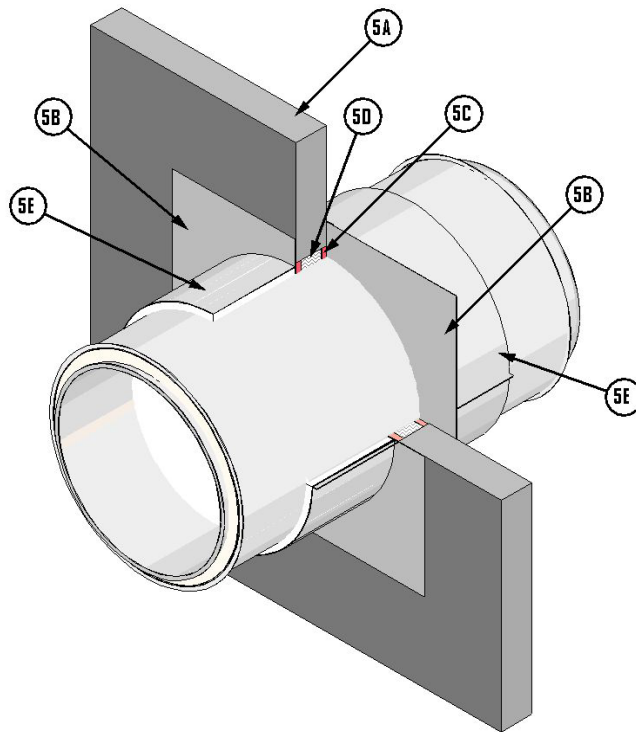

Figure 5. Wall Firestop
- 5. WALL PENETRATION FIRESTOP:** When required to penetrate a fire-rated wall assembly, install the firestop system described in Items 5A to 5F (see Figure 5).